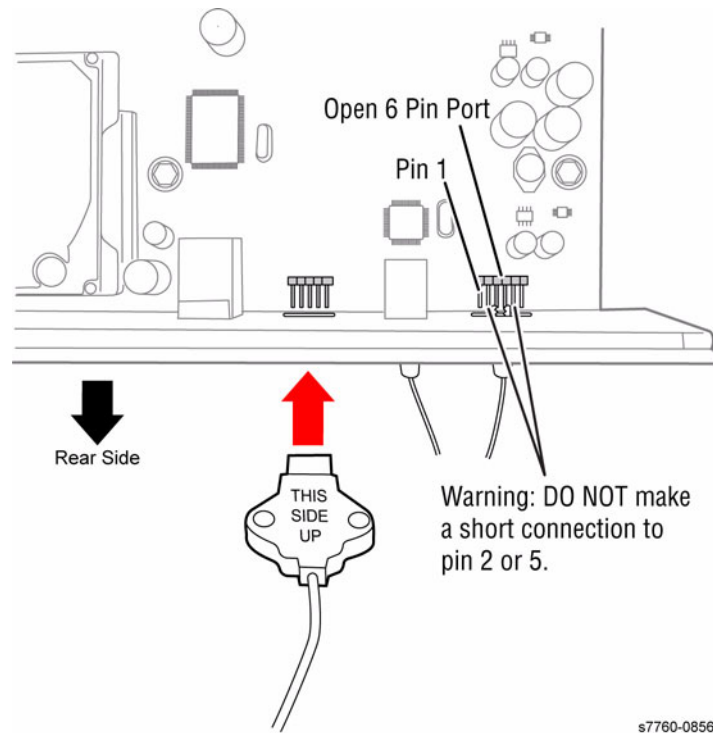

Figure 2 Orientation and Pin Location
4. Connect the Service Cable to the 5-pin port on the back of the printer noting the This Side Up orientation. This Side Up refers to the components side of the PCB, not the orientation of how the board is mounted in the printer (Figure 2).